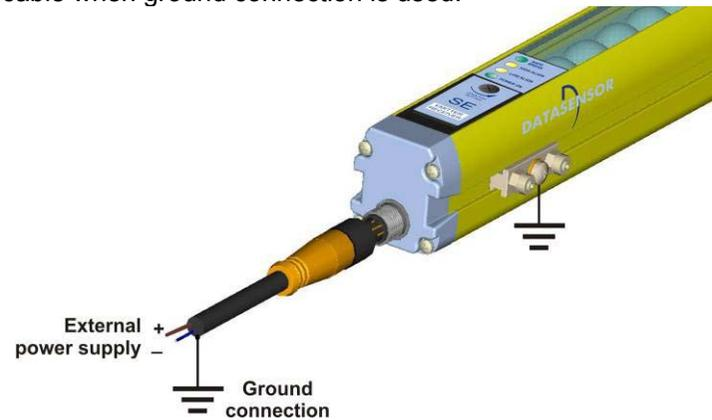

Fig. 14
Fig.14 shows the correct connection of both the units and the cable when ground connection is used.
- The OSSD1 and OSSD2 safety contacts cannot be connected in series or in parallel, but can be used separately (Fig.14). If one of these configurations is erroneously used, the device enters into the output failure condition (see cap.7 “Diagnostic functions”).
The connection, illustrated in page 20 (Fig.14) has to be respected when ground connection of the entire system is necessary.